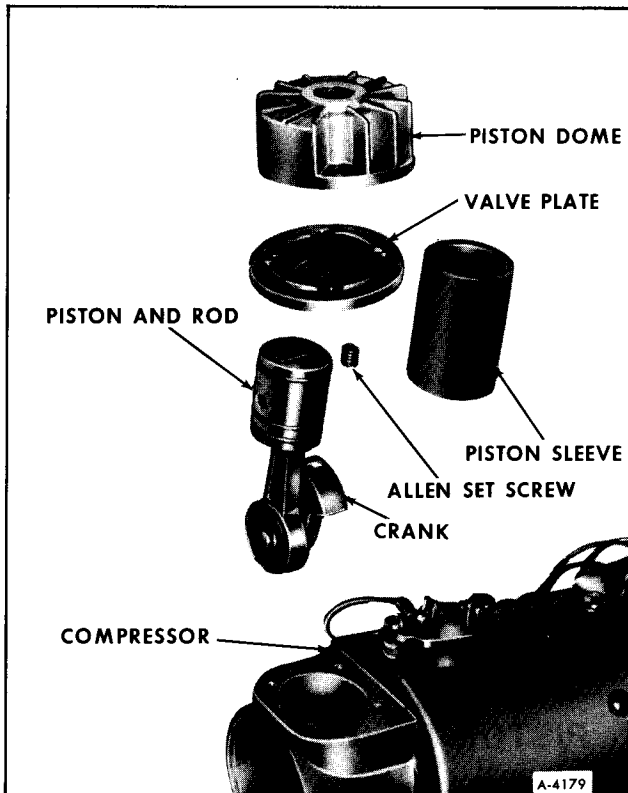

Figure 33—Compressor Components
3. Referring to Figure 33, remove piston sleeve.